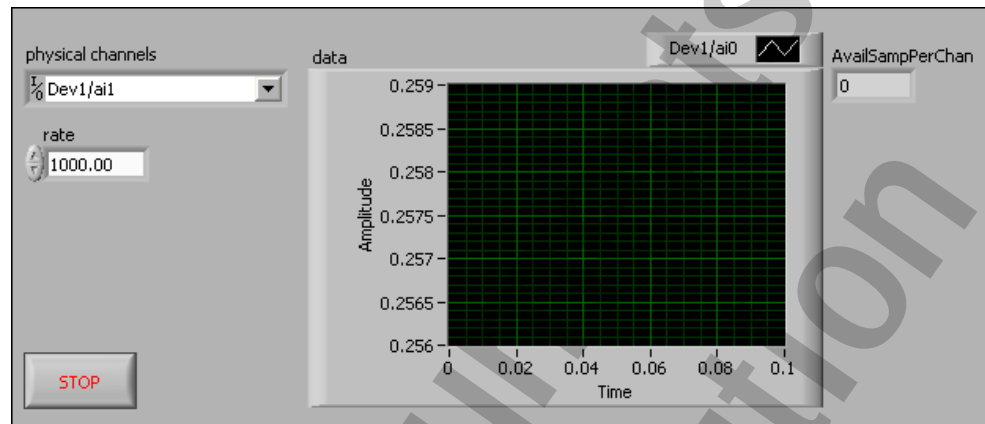

Figure 3-11. Continuous Buffered Acquisition VI Front Panel
4. Arrange the front panel as shown in Figure 3-11.